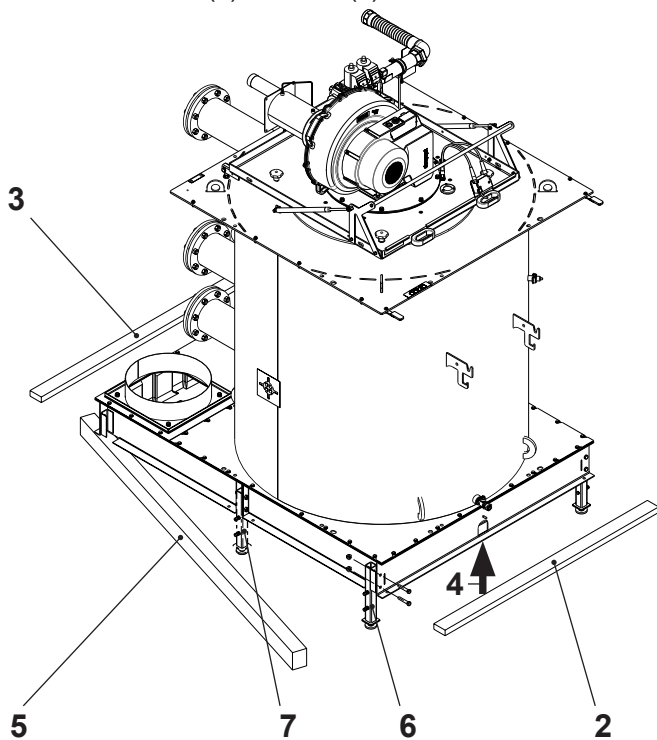

Fig. 07
1. Remove climbing aid (1).
3. Using a winch (4), raise the front of the boiler.
4. Remove both side beams (5) to the front and side (see Fig. 07).
5. Pre-assemble front feet (6) (tighten screws by hand).
7. Remove both side beams (5).
8. Pre-assemble rear feet and, if provided, middle (7) feet (tighten screws by hand).